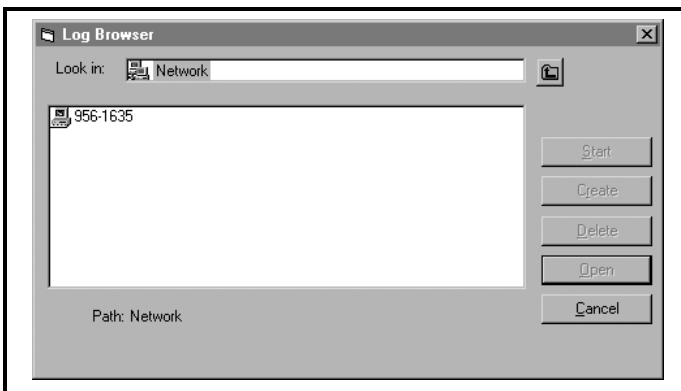

Figure 6-21: Computer Selection
- Click on the “*Log Browser*” option. The dialog box shown in Figure 6-21 below appears.